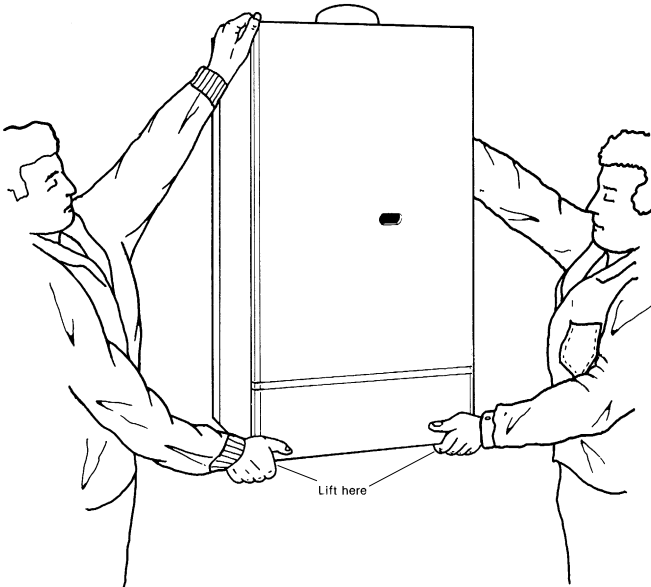

Fig. 10
- 5.3 Lift boiler as shown in fig. 10 onto the top studs and fit supplied nuts and washers hand tight.